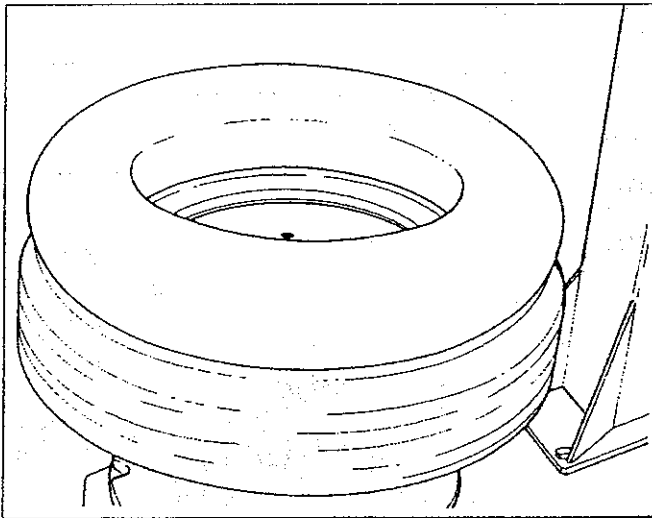

Fig.26
B. Confirm that the tube is designed for tires (Fig.26).